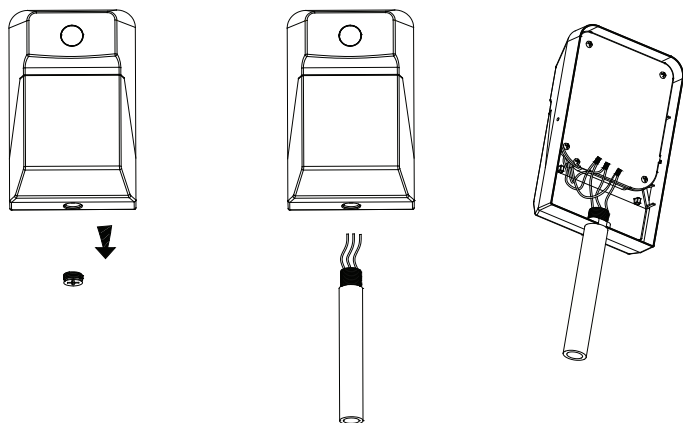

Figure 3
3. Remove plug from bottom of the lamp; Pass stem with wire through the fixture; Wire correctly and make it insulation (Figure 3)